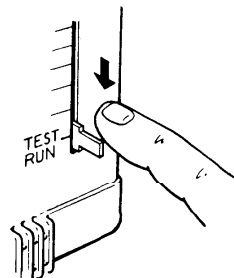

Fig. 40
- Set the thermostat lever to the lowest position. (The central position of the lever becomes the TEST RUN position.) Fig. 40